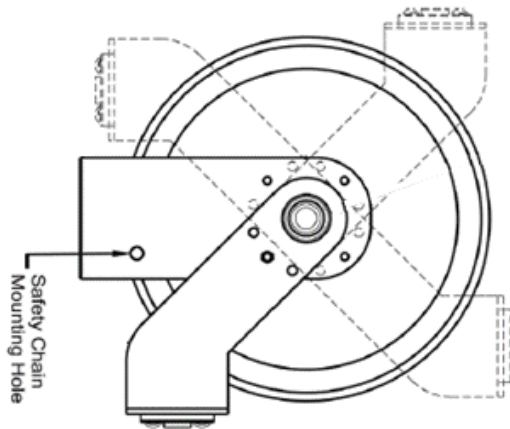

Figure 2-6 EVOREEL Cable Guide Bracket Adjustment
6. Once installed, adjust the EVOREEL cable guide bracket assembly to allow the cable guide and EV Charging Cable/Plug assembly to point/position in the downward direction as shown in Figure 2-6. The roller guide arm can be adjusted by removing the 5/16 hex head bolt and lock washer and rotating the bracket to the downward position. Once repositioned, reinstall the 5/16" hex head bolt and lock washer. (Note: If required for local building codes, an optional Safety Chain Mounting Hole is on the EVOREEL main bracket as shown in Figure 2-6).